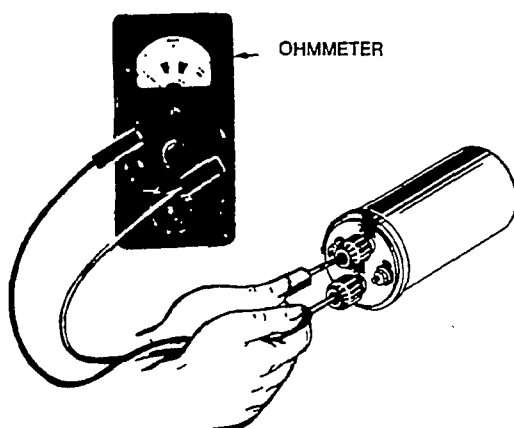

FIGURE 6. COIL TEST
3. Change resistance setting on ohmmeter. Place ohmmeter leads inside of spark plug cable holes (Figure 6). Secondary resistance should read 12,600-15,400 ohms.